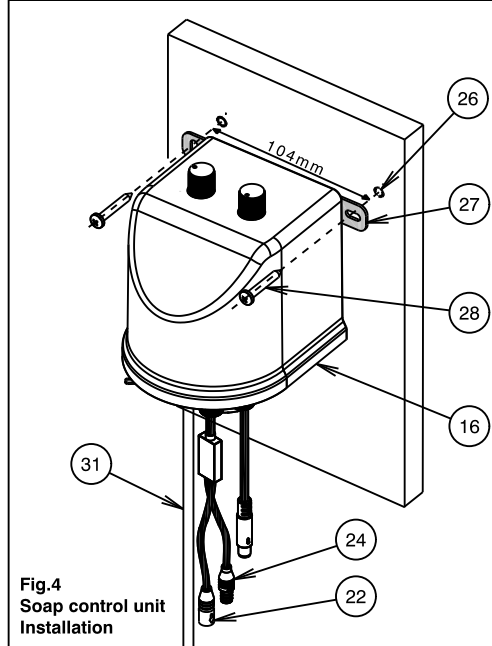

Fig.4
- i) Drill two Ø6mm holes, 40mm deep and 104mm apart horizontally as shown in Fig. 4.
- ii) Insert small end of wall plugs (26) into drilled holes and tap until flush with wall/tile face.
- iii) Align the slots on fixing plate (27) with the holes on the wall, pass the screws (28) through the slots and insert into the wall plugs (26). Then tighten the screws. DO NOT OVERTIGHTEN.
- i) Drill two holes at 104mm apart horizontally to suit the self tapping screws supplied as shown in Fig. 4.
- ii) Align the slots on fixing plate (27) with the holes on the wall, pass the screws (28) through the slots and insert into the wall plugs (26). Then tighten the screws. DO NOT OVERTIGHTEN.